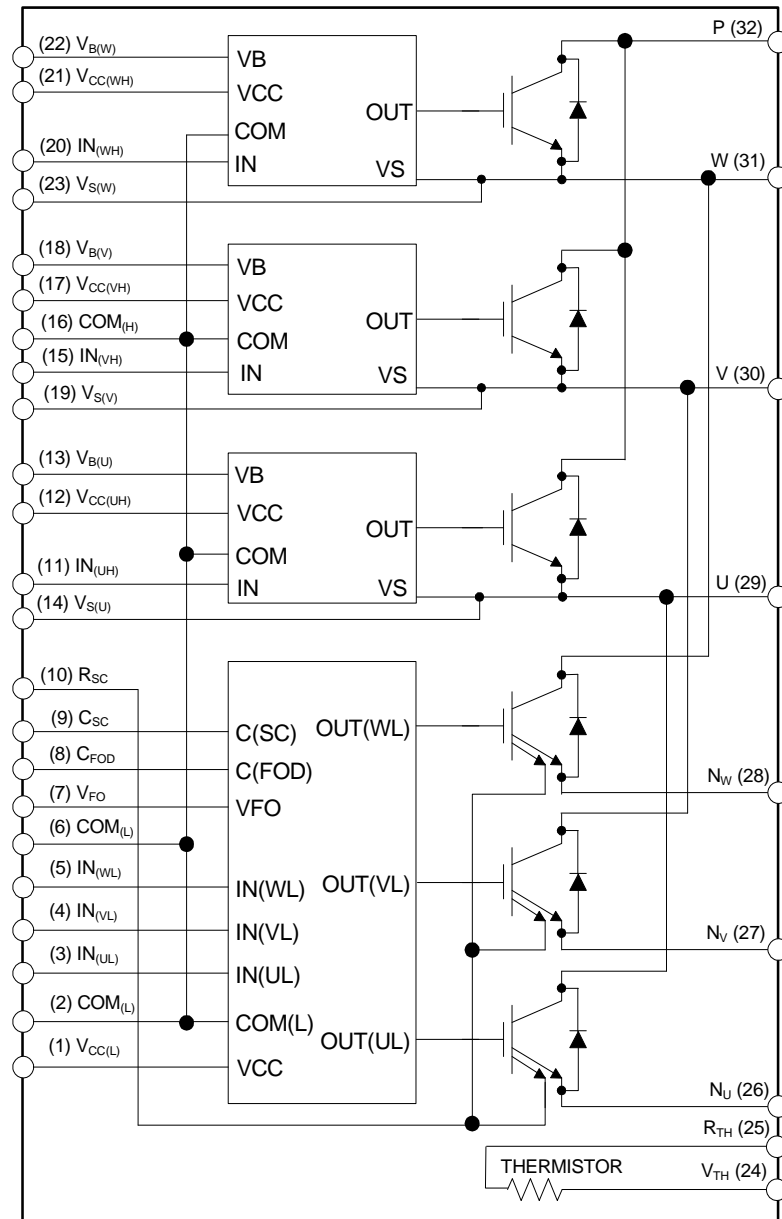

Figure 3. Internal Block Diagram
- 600V - 30 A IGBT inverter for three-phase DC / AC power conversion (please refer to Figure 3)